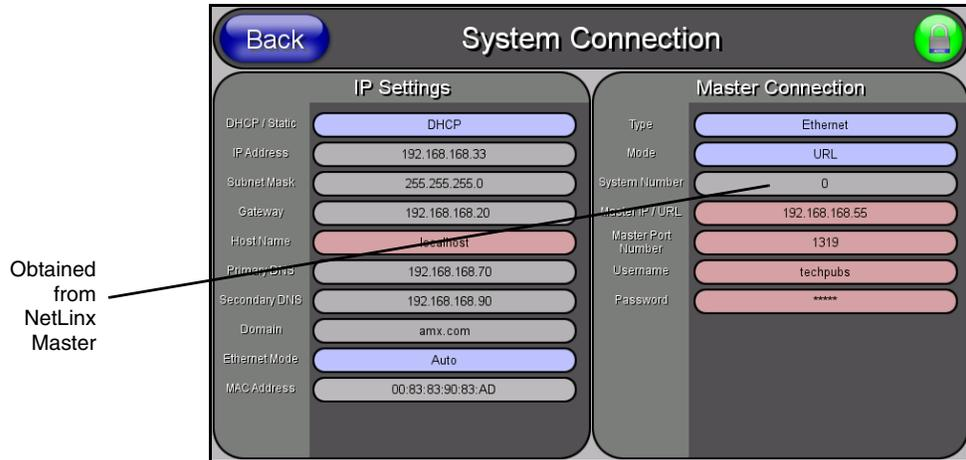

FIG. 61 System Connection page
7. Select **Protected Setup > System Connection** (located on the lower-left) to open the System Connection page (FIG. 61).